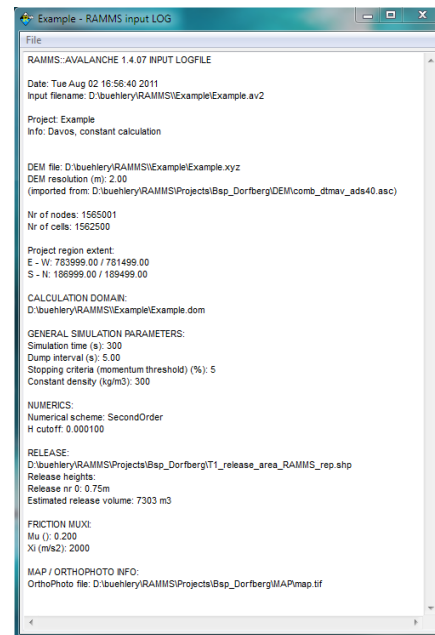

Figure 4.37: RAMMS Project Input Log file.
- (1) Information on simulation time and resolution. Be sure the *simulation stopped due to LOW FLUX*. Otherwise the output *TIME END CONDITION* informs you, that your simulation stopped before the avalanche reached the stopping criteria you defined for the simulation (see section Stop p.47).
- (2) Information on simulation results.
- (3) Input logfile (see Fig.4.37)